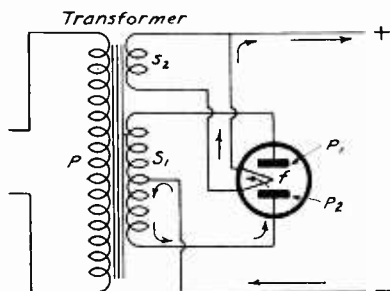
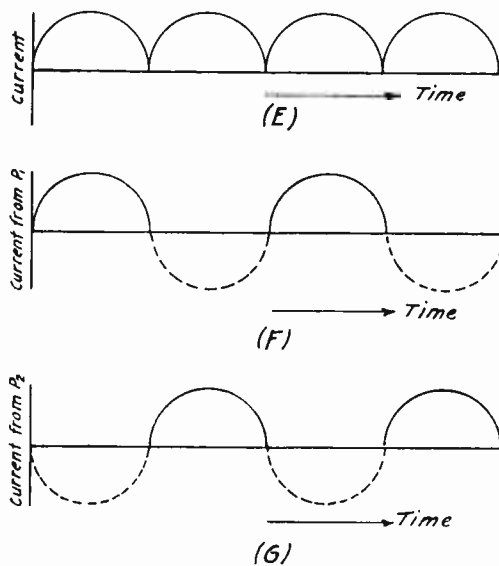

Fig. 26.
Fig. 27.
$P_2$  is positive, so that the current now flows in the direction indicated by the arrows in Fig. 26. In each case, you will notice, the current flows out of the rectifier and into the radio receiver at the + (plus) terminal, showing that our current is now unidirectional; that is, it always flows in the same direction. It, however, is not a constant current, but has the wave form indicated by the curve in Fig. 27-(E). Since current flows from each plate to the filament during only one-half the cycle, it is clear that Fig. 27-(E) is obtained by add-
ing together the current waves of the two plates, shown in Figs. 27-(F) and 27-(G).